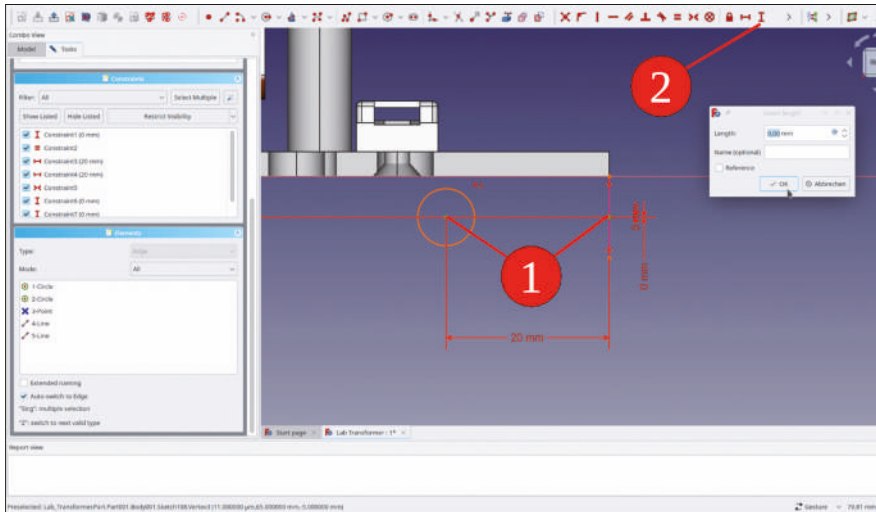

Figure 9-129
36. Mark the new point and one of the circle centers. Constrain the vertical distance to zero (Figure 9-129).